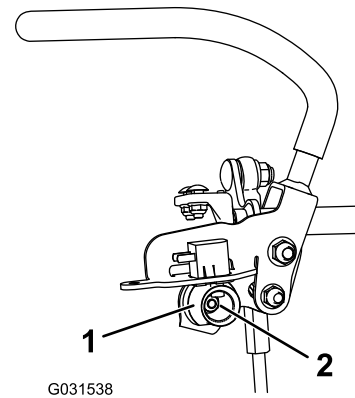

Figure 76
6. Loosen the nut holding the cam (Figure 76).